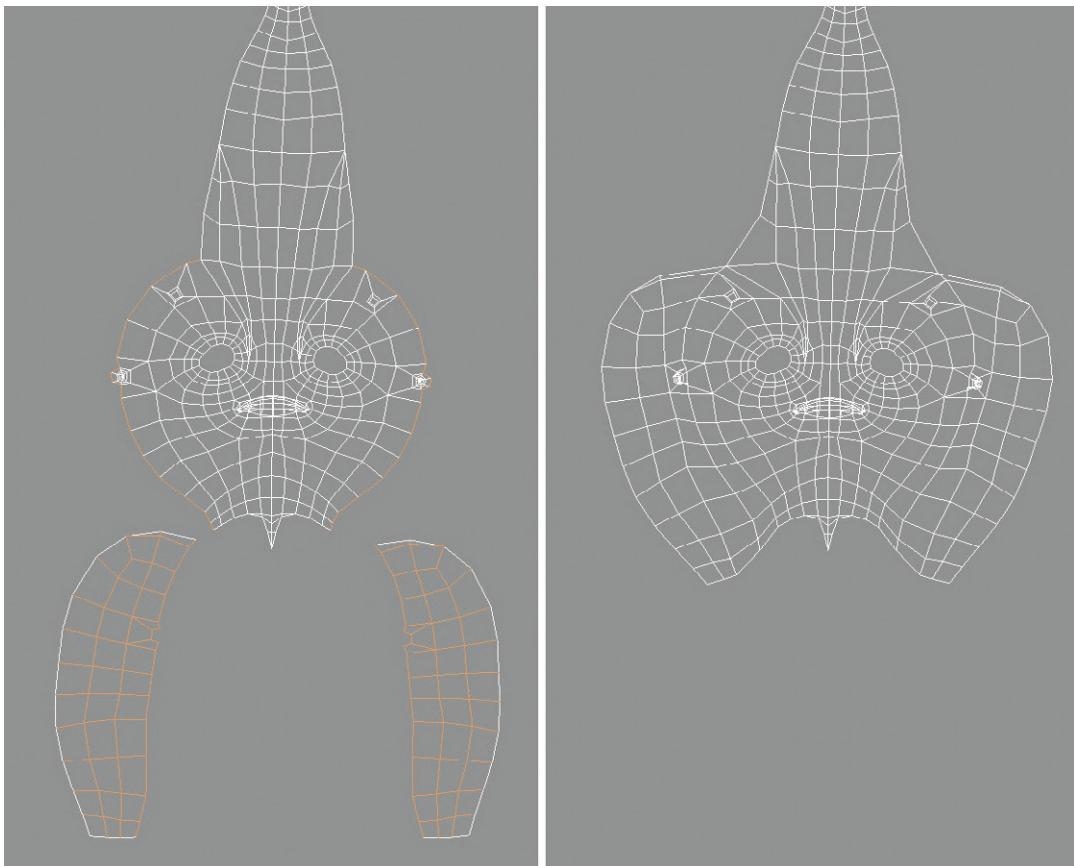

FIG. 5.40 Finishing up the head by reattaching remaining UVs.
Step 15: Reattach the remaining head shells. To do this select the remaining shells of the side of the head and scale them, so that their edges are similar in size to the extant face shell. Then attach them to the face shell with Move and Sew UV Edges (Fig. 5.40).
Notice that the selection shown in Fig. 5.40 (left) is pretty liberal (it's not limited to just the edges that are to be sewn together). This is OK actually as the other edges that are selected there are already sewn together; so they will have no effect on the final shell once Move and Sew UV Edges is used. Sometimes a sloppy selection like this can save a lot of time and yield the same results as if a very careful selection of edges were made.